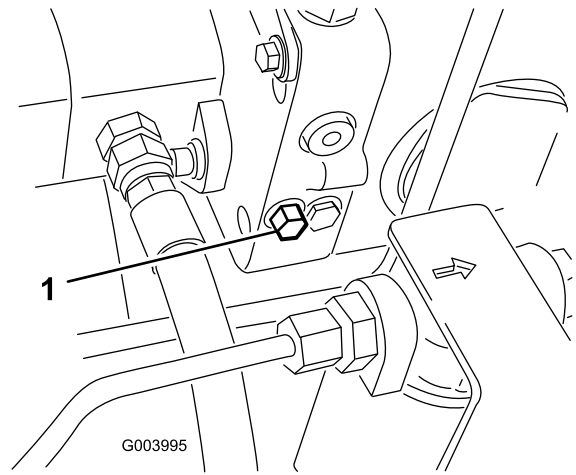

Figure 27
1. Locate the bypass valve on the left side of the hydrostat (Figure 27).